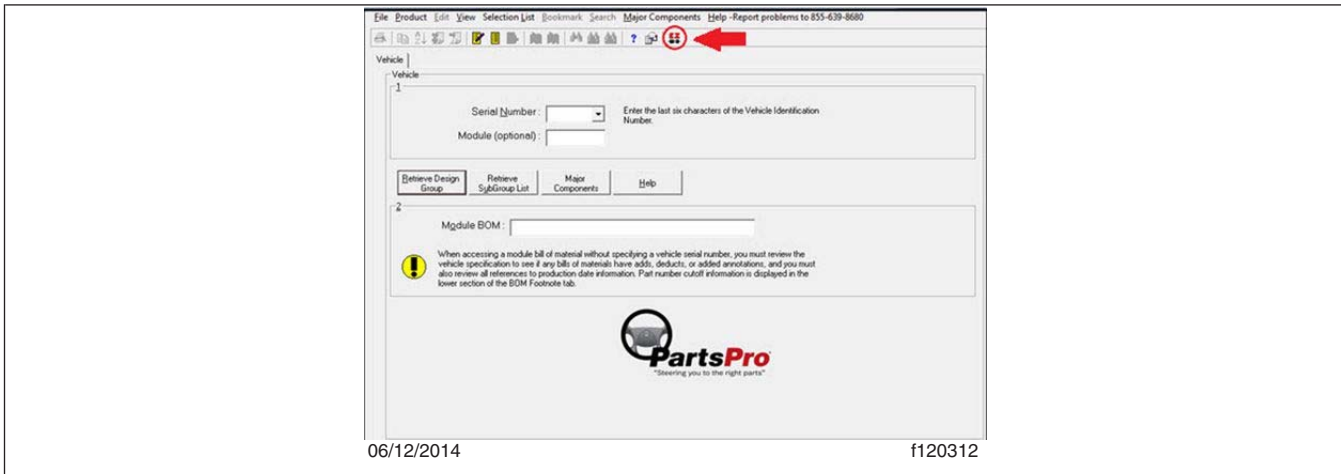
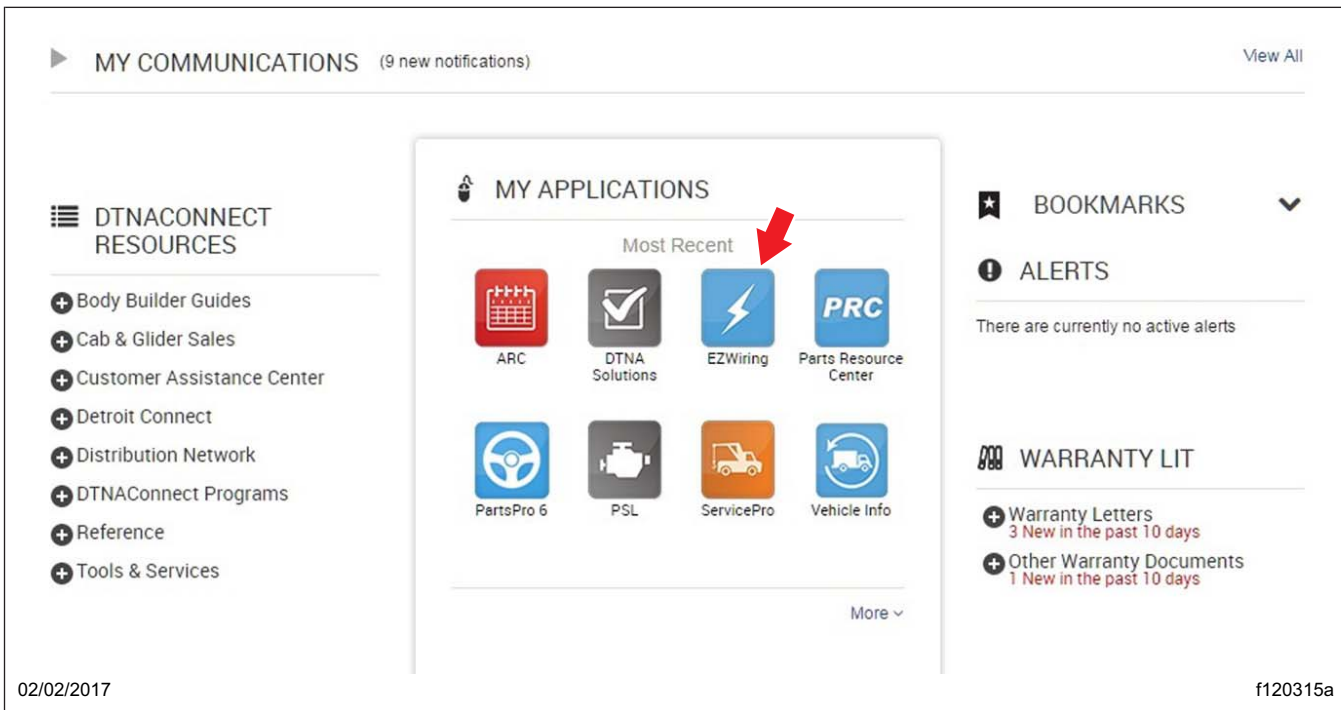

Fig. 1, EZWiring Application in PartsPro
Fig. 2, EZWiring Application in DTNA Connect
1. Open the EZWiring application, either in PartsPro or DTNA Connect. See Fig. 1 and Fig. 2.